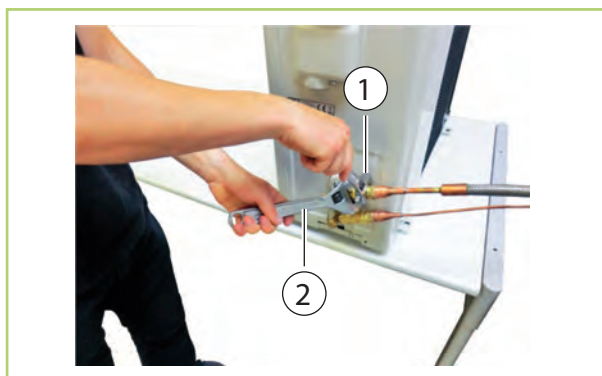

Fig. 38: Tightening the fitting
6. ➤ Then tighten the fittings with 2 appropriately-sized open-ended spanners. Use one spanner to counter the force when tightening the fitting (Fig. 38).